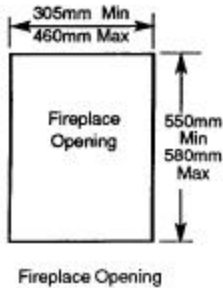

Fig. 2
1. Any chairbrick must be removed if necessary to achieve the minimum depth. The fireplace opening must be a minimum of 305mm (12 in) wide (Fig. 2).